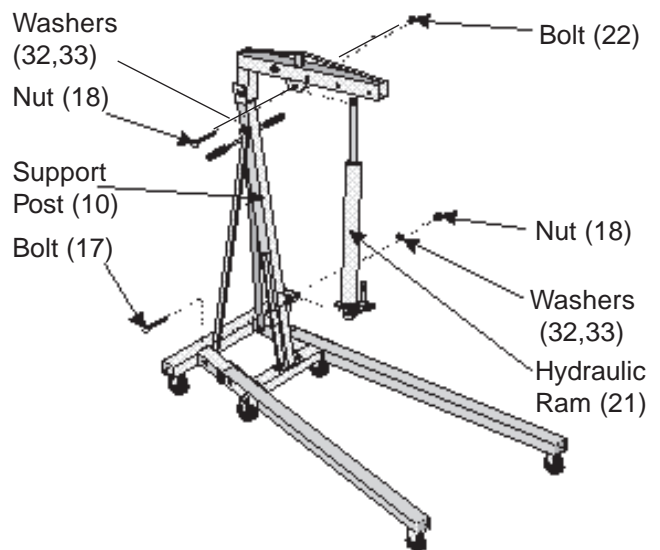

Figure 4B-Attaching the Hydraulic Ram
Step 6) Attach the Hydraulic Ram (21) to the bracket located toward the bottom of the Support Post (10) - see Figure 4B below. Insert Bolt (17), then slide on Washer (32) and Spring Washer (33). Tighten on Nut (18). Lean the Hydraulic Ram (21) against the Support Post (10) while installing the Boom (13) in next step.
Step 8) Attach the Hydraulic Ram (21) to the fork near the center of the Boom (13) with Bolt (22), Washer (32) and Spring Washer (33). Tighten into place with Nut (18) - see Figure 4B on the previous page.